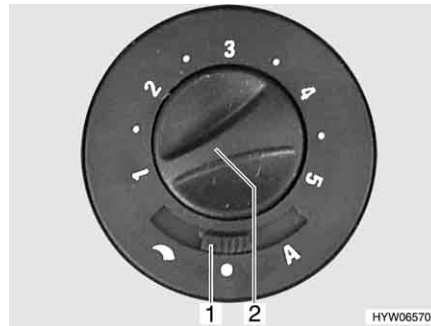

Fig. 112 Operating switch for circulation fan
- Set sliding switch (Fig. 112,1) to "☰" (manual control) or "A" (automatic operation).
- Turn the knob (Fig. 112,2) to set (manual control) or limit (automatic operation) the power of the circulation fan.
- Set sliding switch (Fig. 112,1) to "●" (off).